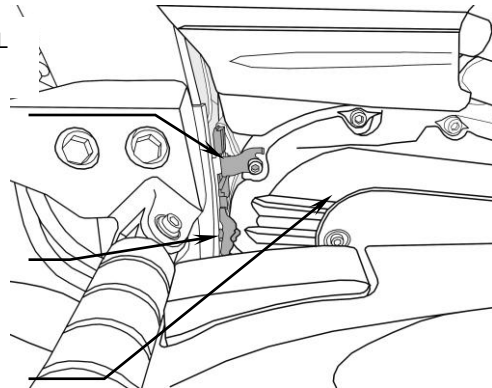

FIGURE 3
5. Remove the socket head screw securing the O₂ sensor harness and bracket to engine case on the right side of the motorcycle, see Figure 3, unplug the stock male and female connectors, and route the Fi2000 O₂ connectors to this location and insert into corresponding connectors. The routing of the harness will need to be from the under seat area, to behind the oil tank and down to this area where the connectors are. It may be necessary to pull the harnesses outward to assemble once routed down behind the oil tank, then reposition behind the frame rail and reattach the mounting bracket to the case and tighten to proper factory torque specification.